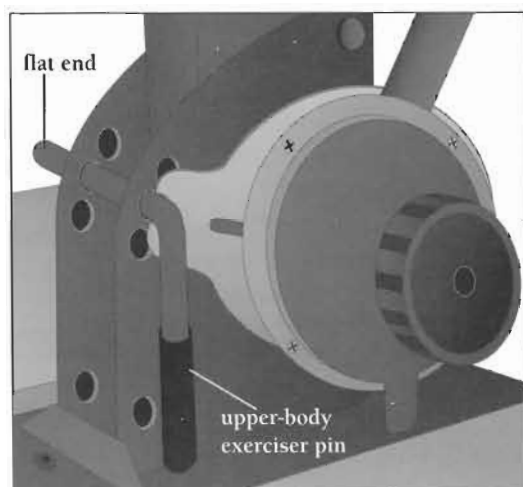

Figure 5
5. Rotate the upper-body exerciser pin down to secure it in place (Figure 5).